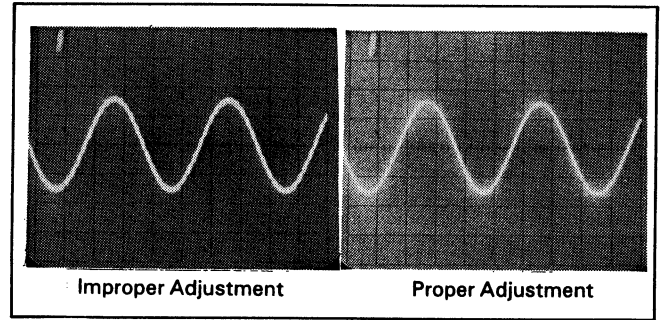

Figure 5-7. Oscillator Output Adjustment.
g. Adjust A2R113 (T.O. MIXER BALANCE) for the cleanest signal. See Figure 5-7.